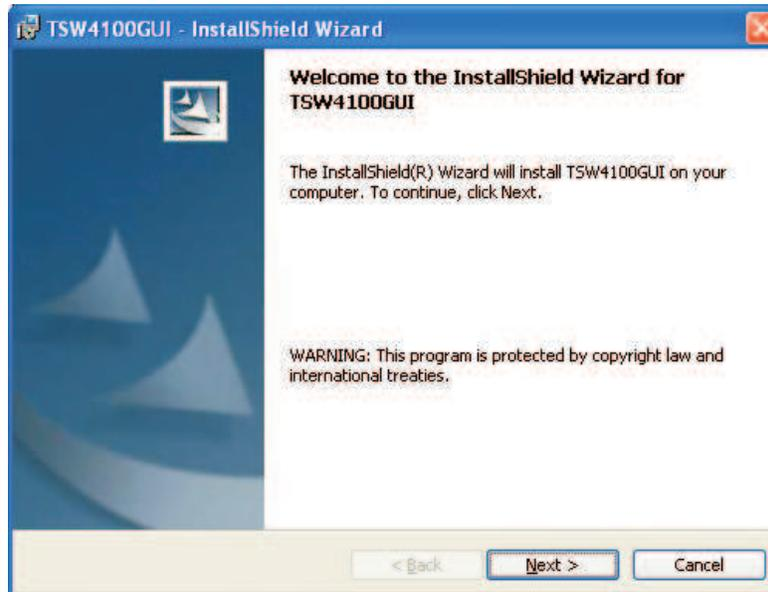

Figure 8. TSW4100 Installation Welcome
1. Double-click the *TSW4100GUI\installer.exe* filename found in the top-level folder of the TSW4100 Installation CD-ROM. The TSW4100 Installation Wizard (Figure 8) displays. Click *Next*.